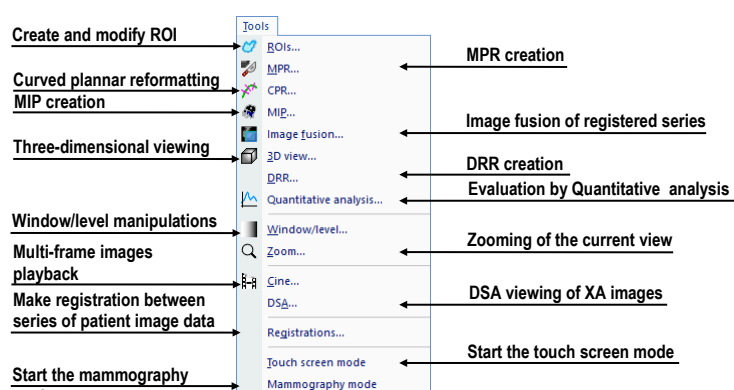

Figure 36 – Tools menu
- **Tools** – tools for image data handling such as windowing/zooming, 3D viewing, reconstructed viewing (MPR, MIP, DRR), subtraction (DSA), creating regions of interests and registrations, launching the touch screen and mammography modes (see Figure 36).